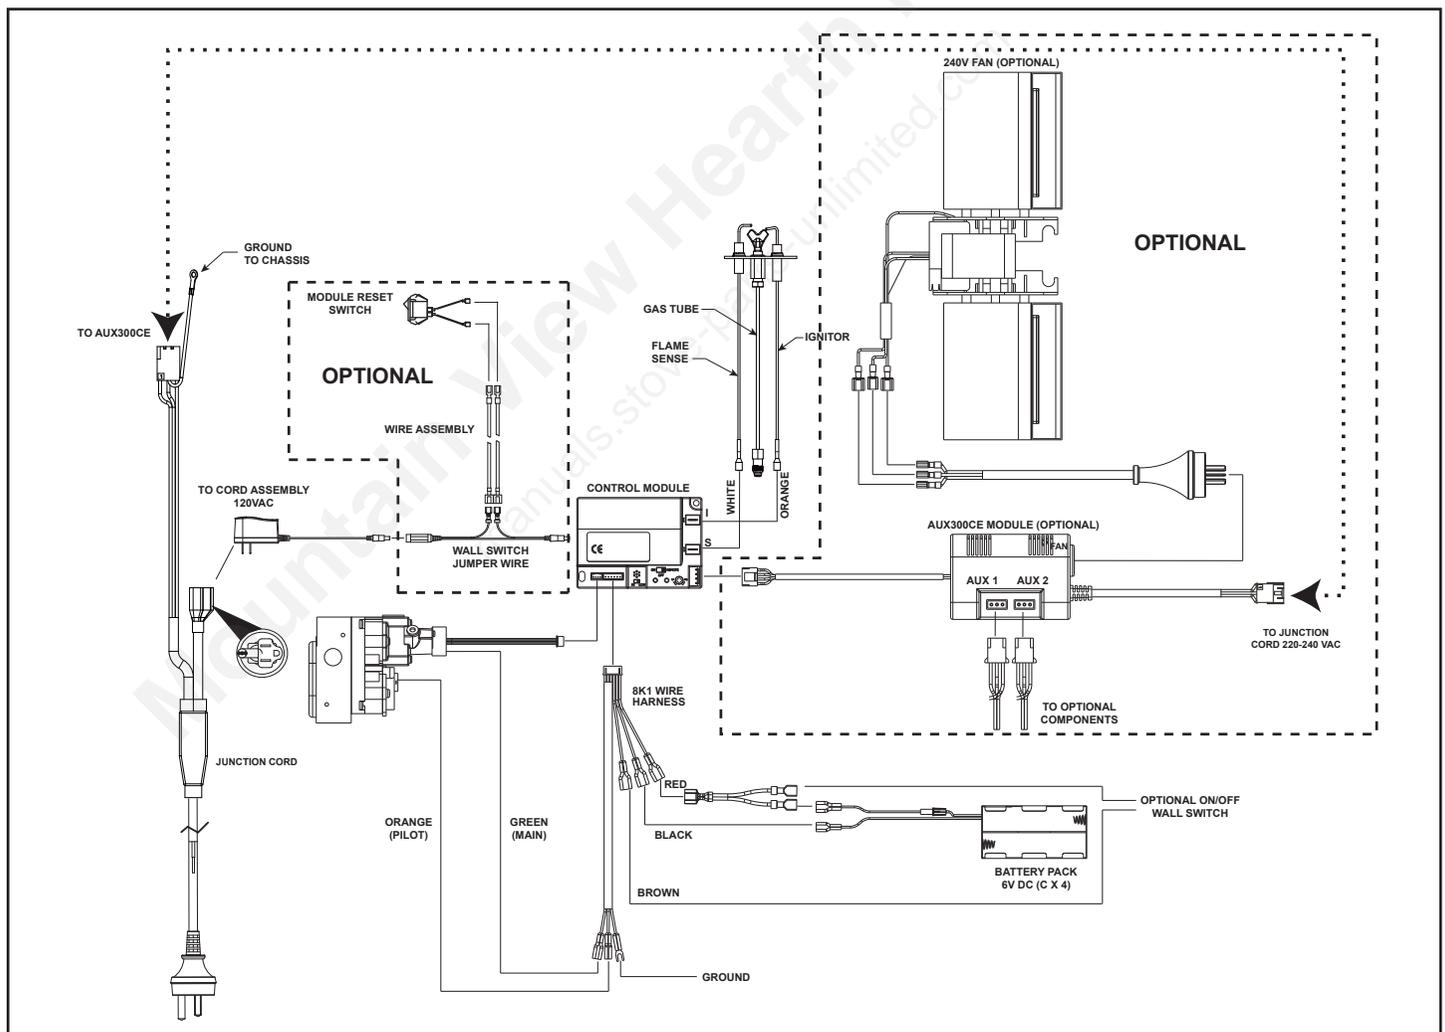

Figure 12.1 - IPI Wiring Diagram /RC300AU
- Refer to Figure 12.1, IPI Wiring Diagram.